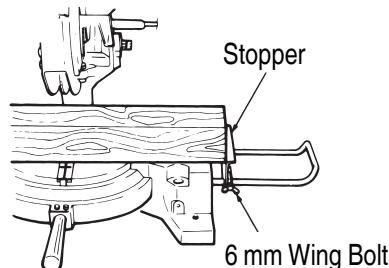

Fig. 5
3. Cutting of workpiece of fixed length (Fig. 5)